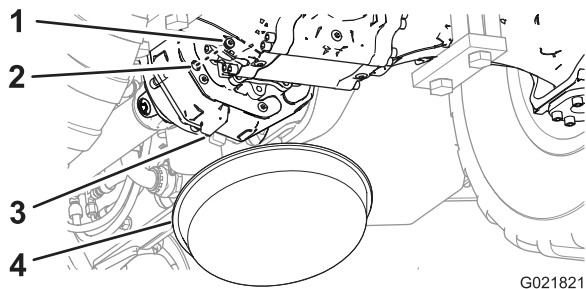

Figure 73
1. Place a drain pan under the back side of the transmission housing (Figure 73).
2. Remove the plug from the sight port in the transmission (Figure 73).
3. Look through the sight port and check that the oil level in the transmission is level with the bottom of the threads of the port (Figure 73).
6. Install the sight plug into the sight port of the transmission housing (Figure 73).